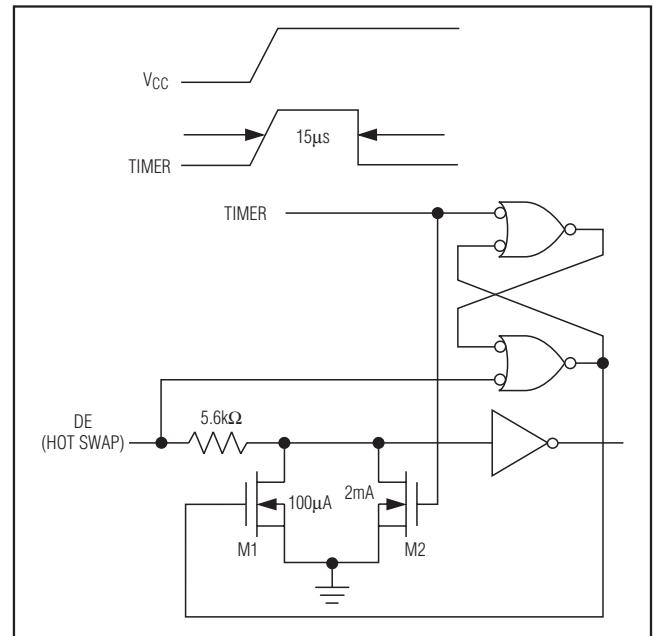

Figure 10. Simplified Structure of the Driver Enable Pin (DE)
At the driver-enable input (DE), there are two NMOS devices, M1 and M2 (Figure 10). When V_{CC} ramps from zero, an internal 15 μs timer turns on M2 and sets the SR latch, which also turns on M1. Transistors M2, a 2mA current sink, and M1, a 100 μA current sink, pull DE to GND through a 5.6k Ω resistor. M2 pulls DE to the disabled state against an external parasitic capacitance up to 100pF that may drive DE high. After 15 μs , the timer deactivates M2 while M1 remains on, holding DE low against three-state leakage currents that may drive DE high. M1 remains on until an external current source overcomes the required input current. At this time, the SR latch resets M1 and turns off. When M1 turns off, DE reverts to a standard, high-impedance CMOS input. Whenever V_{CC} drops below 1V, the input is reset.